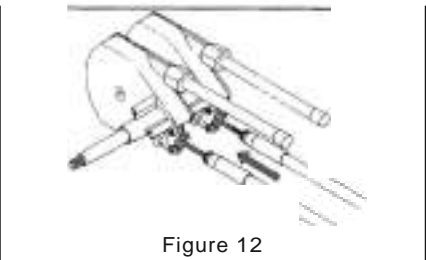

Figure 12
**STEP 3.** Feed the cables into the LOWER helm entry spigots, keeping the conduit fittings aligned, until they contact the internal gears. Then turn the steering wheel to draw the cables fully into the helm (see Figure 12). Continue turning the wheel until the end fittings of the cables are entered into the entry spigots, and the wheel cannot be turned further. During this you may hear a click as the backing mechanism engages. Turn the steering wheel fully in the other direction until it cannot be turned any further and check that the cable end fittings are retained inside the entry spigots.